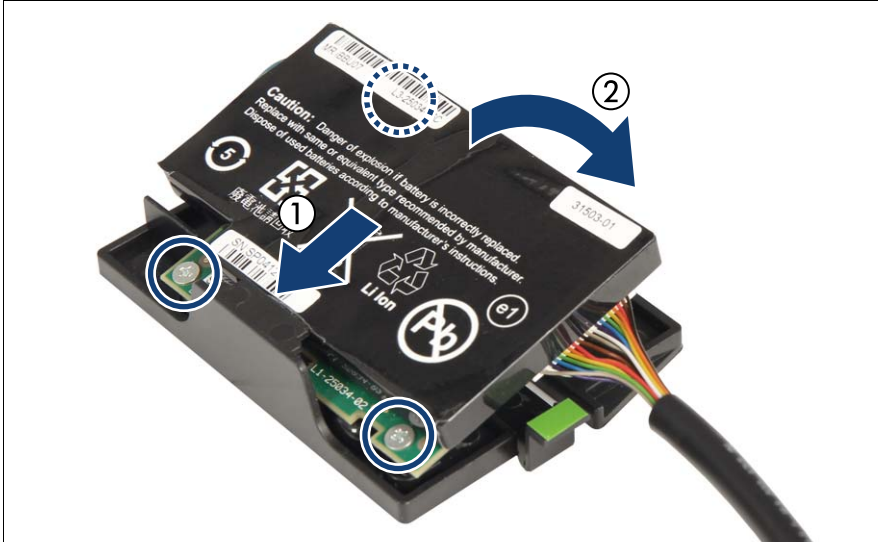
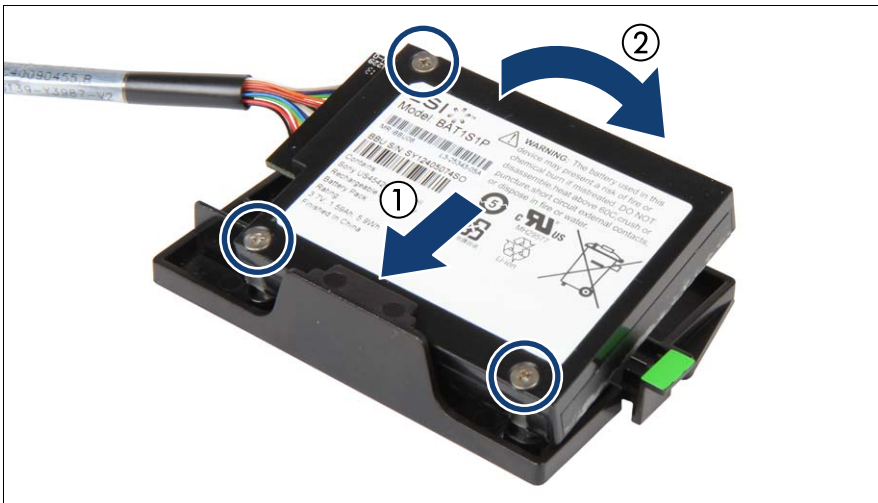

Figure 38: Installing the BBU in the BBU holder (example A)
Figure 39: Installing the BBU in the BBU holder (example B)
- i** There are different BBUs available. Please notice the position of the three bolts (see circles in figure 38 and figure 39) to recognise the right position for installing the BBU in the BBU holder.